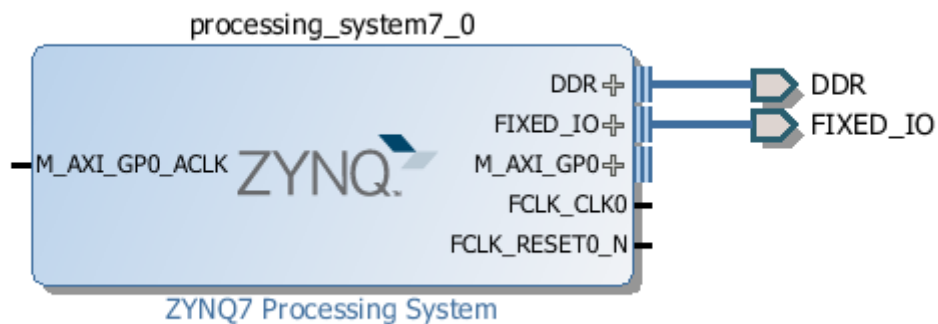

Figure 2-1: Initial design
- Check that your block diagram matches the diagram shown in Figure 2-1.